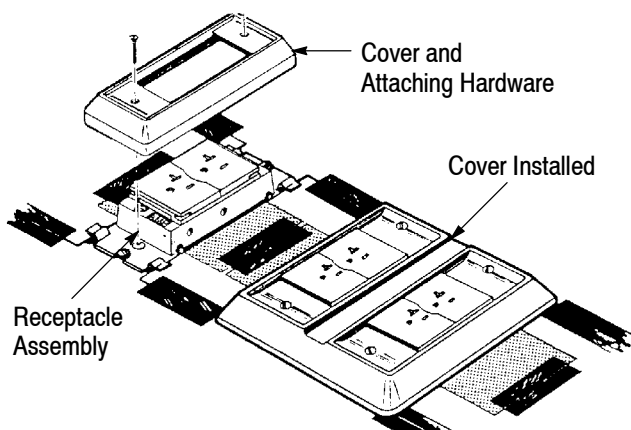

Figure 7
9. Place the cover over the receptacle(s), and secure it to mounting plate using the attaching hardware. See Figure 7.